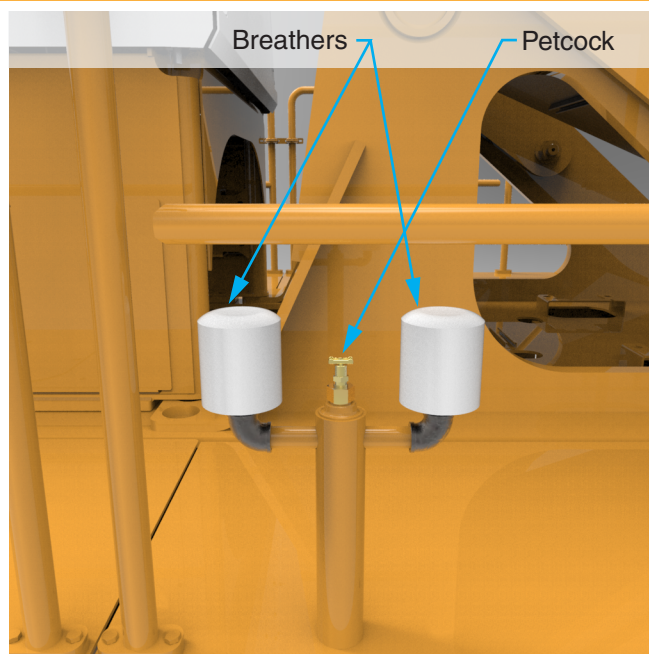

Figure 5-5-25 Hydraulic Tank Breathers
3. Relieve pressure in the tank by opening the petcock between the breathers. See Figure 5-5-25.